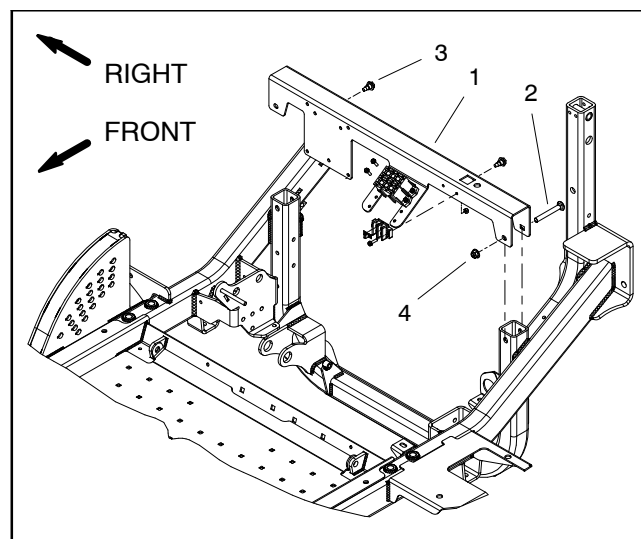

Figure 61
7. Remove two (2) carriage screws and flange nuts that secure seat channel to frame (Fig. 61). Separate channel from frame and carefully position channel away from frame to allow easier transmission removal.
**NOTE:** Two (2) 8 mm eyebolts can be installed into threaded bosses in top of transmission to allow use of a lift or hoist to remove transmission.
11. Carefully position seat channel to frame (Fig. 61). Secure seat channel to frame with two (2) carriage screws and flange nuts.